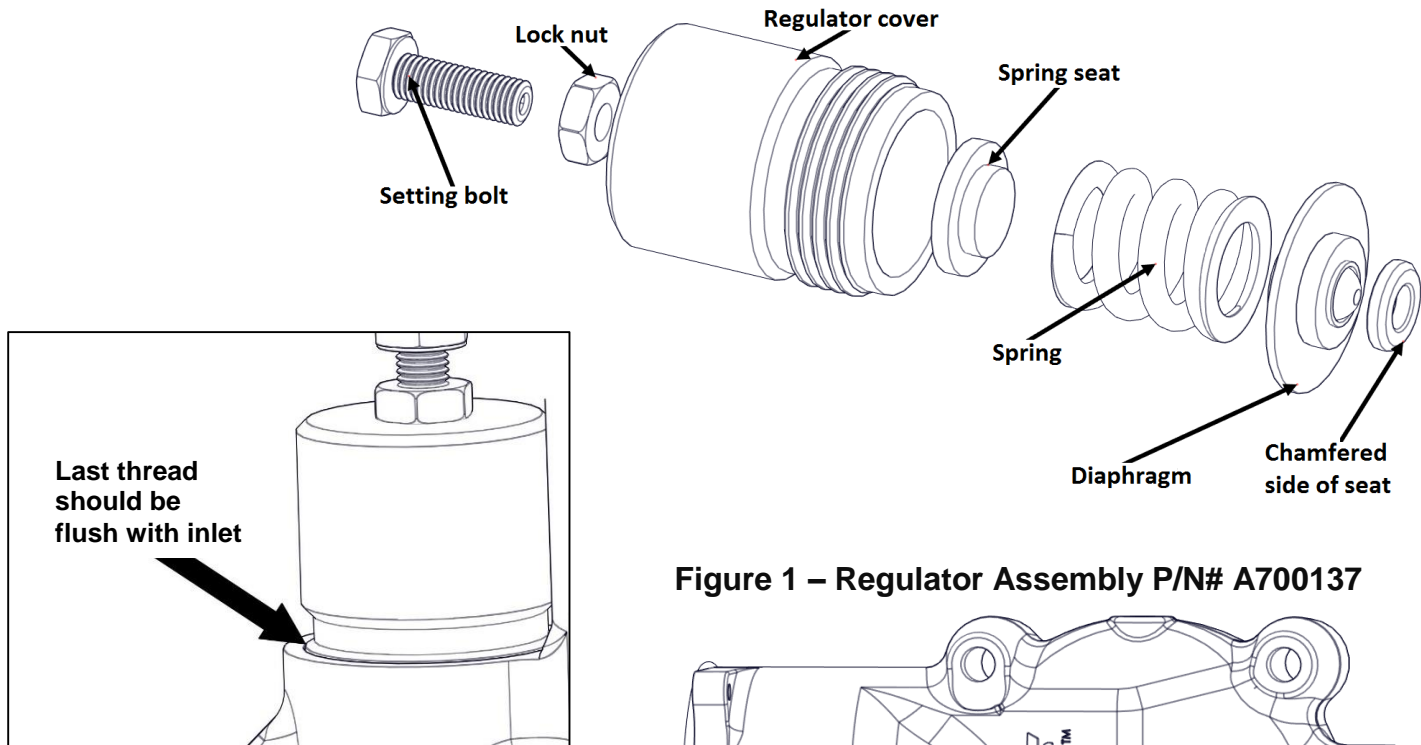

Figure 1 – Regulator Assembly P/N# A700137
5. If the seat is being replaced, apply just enough general purpose grease to the chamfered side of the seat to hold it in place during the install. Install the new seat with the chamfered edge of the seat facing into the Inlet and away from the regulator cover (Figure 1). Ensure that there is no excess grease that will block the center of the seat or carry over into the air passage in the Inlet.
6. Install the rubber diaphragm into the Inlet with the ball surface of the diaphragm facing the seat. (Figure 1)